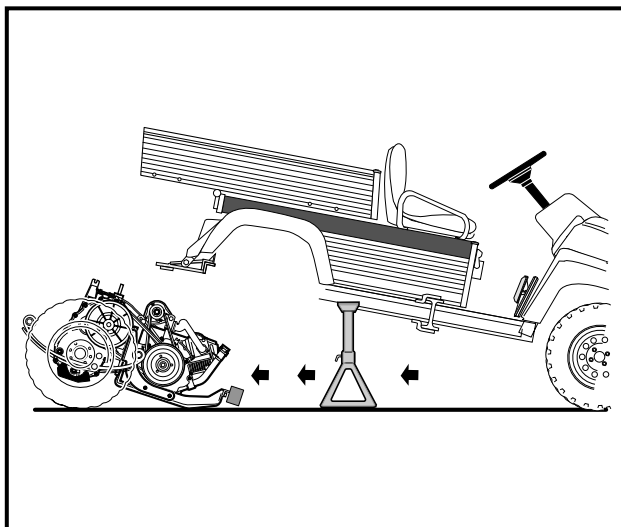

Figure 16b-33 Remove Powertrain
14. Grasp the ends of the leaf springs at the rear of the vehicle and roll the powertrain out from under the vehicle (**Figure 16b-33, Page 16b-16**).